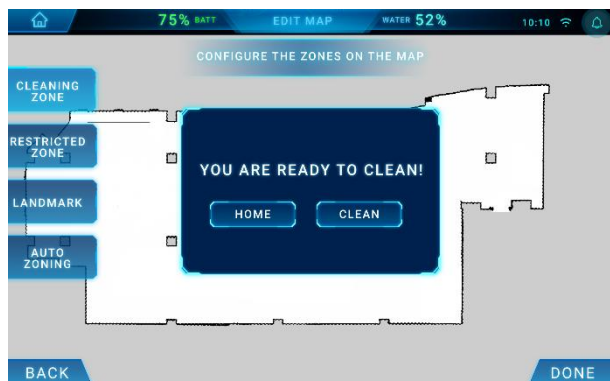

Fig 7
12. De REX is klaar om schoon te maken (Fig 7).